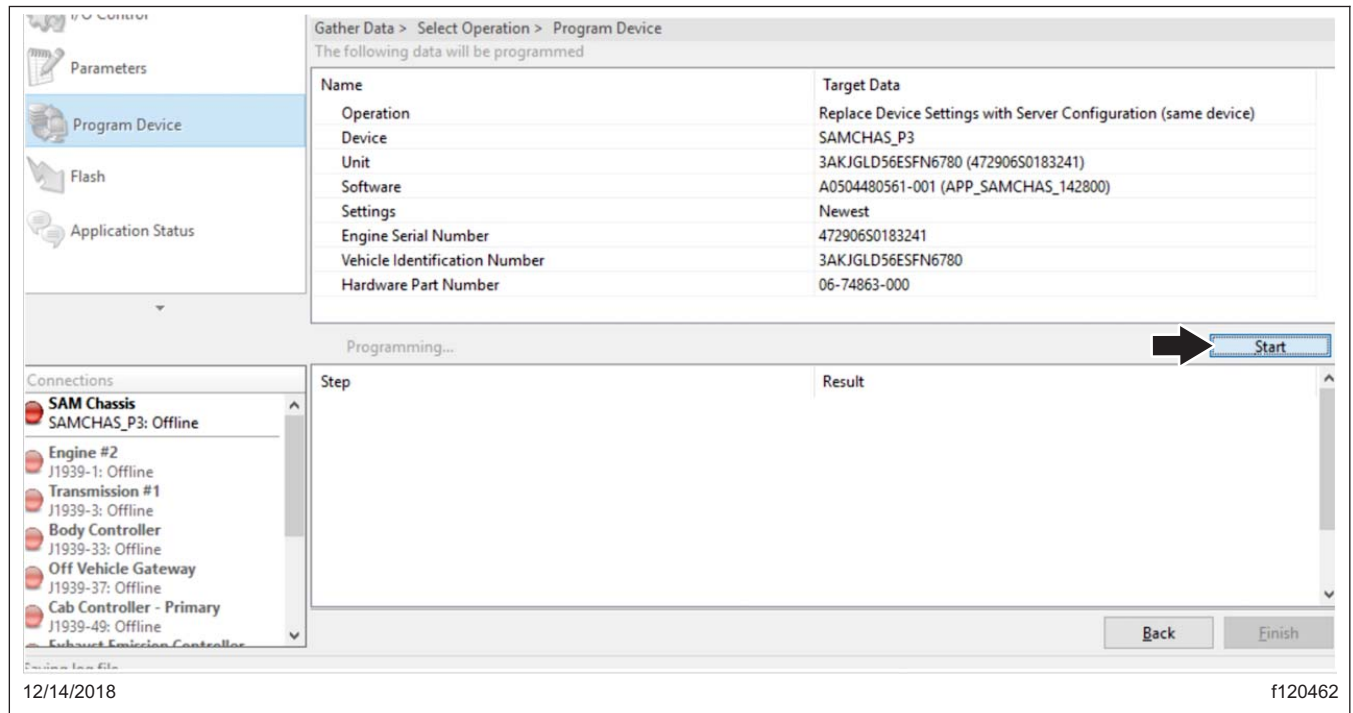

Fig. 10, Programming the Controller
11. Review and verify the VIN and hardware part number. Click "Start" to program the controller. The software will be flashed and the new parameter set will be written to the controller on the vehicle. See Fig. 10.